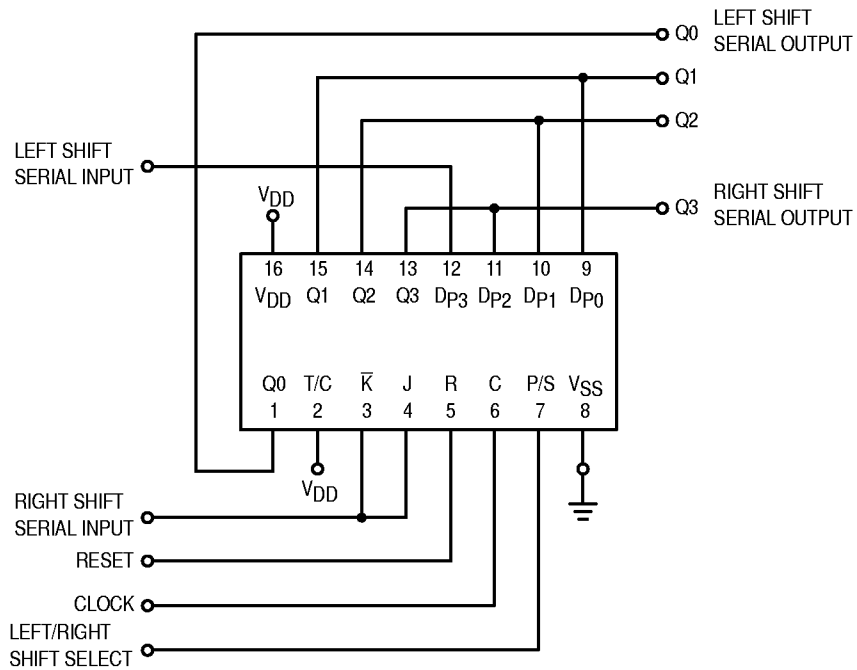

**Figure 1. Timing Diagram**
**SWITCHING CHARACTERISTICS** ( $C_L = 50 \text{ pF}$ ,  $T_A = 25^\circ\text{C}$ , See Figure 1)